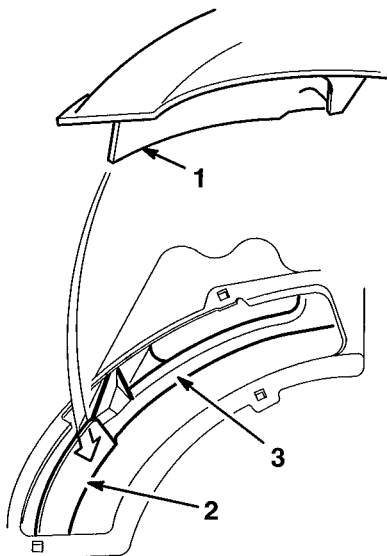

Figure 33
4. Place front corner of chute baffle into deck opening. Rotate chute counterclockwise and push down into deck opening (Fig. 33).